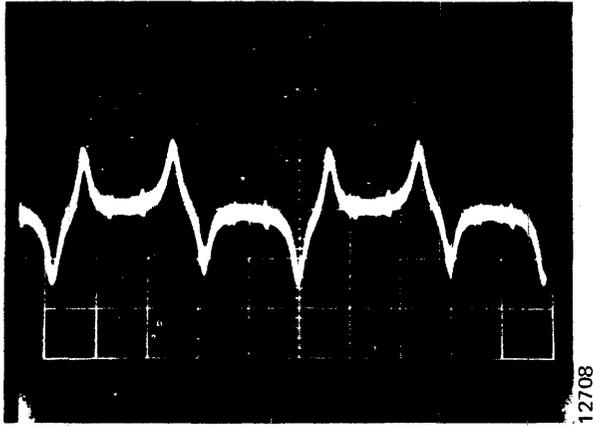

Figure 3-12. Head Alignment Dibit Waveforms
16. Set the scale switch on the meter box to OFF, address the head being aligned using the RSTHD and ADVHD switches on the exerciser; and turn on the exerciser CONT switch. A display resembling the aligned dibit signal shown in Figure 3-12 should be seen on the scope.
18. While observing the scope, use the head alignment pliers to adjust the head position in or out for a balanced dibit signal, as shown in Figure 3-12. Head movement is controlled by adjusting the thumb-screw and the amount of pressure on the plier handles.